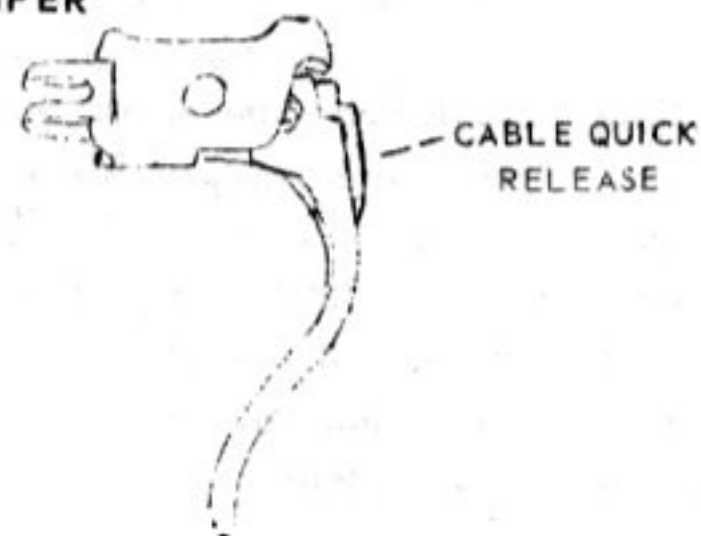

FIGURE 10
3. On the hand brake lever (see figure 10 - page 9)